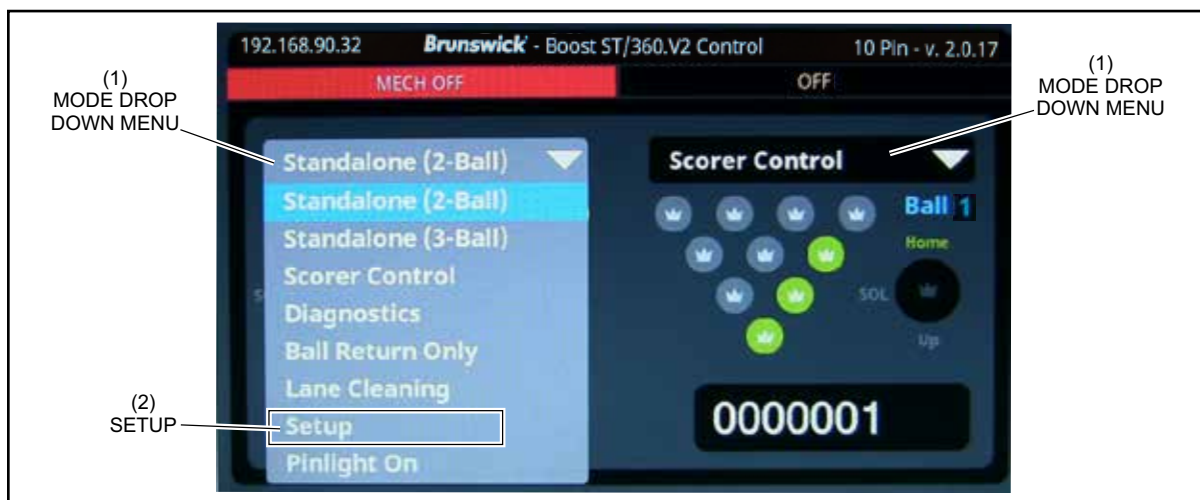

Figure 9. Select Setup Mode
- b. On the Pinsetter Mode drop down menu, select “Setup”. Refer to *Figure 9*.